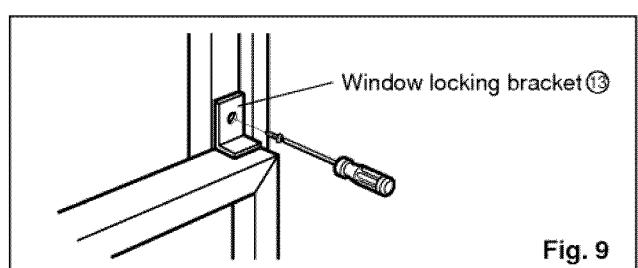

Fig. 9
12. Attach the window locking bracket ⑬ with a type C screw. (See Fig. 9)